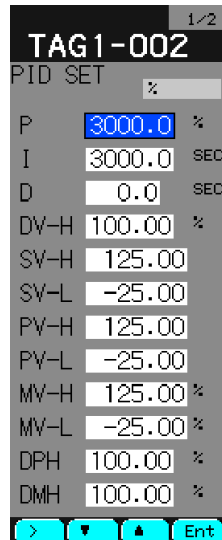

Fig. 4-18
- ⑧ Align the cursor with “2nd Mdul” position and press the “Sel” key to display the screen in Fig. 4-18.
- ⑨ Operate chameleon keys so that each parameter will be set the same as in Fig. 4-18 and 4-19.
- ⑩ Upon setting, press the “Chameleon change” key  to display the “Back” key on the chameleon key display area.
- ⑪ Press the “Back” key to resume the “PARAMETER SET” screen.